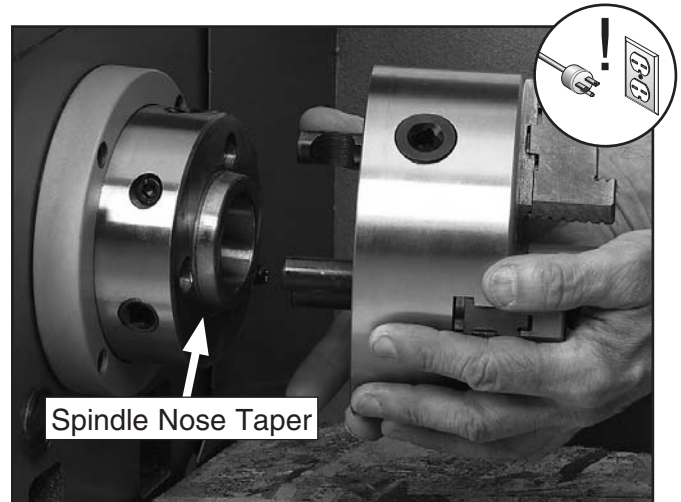

Figure 18. Installing and removing chuck.
5. With a rocking motion, carefully remove the chuck from the spindle nose (see **Figure 18**).
7. Lift the chuck, and insert the studs onto the spindle nose (see **Figure 18**).